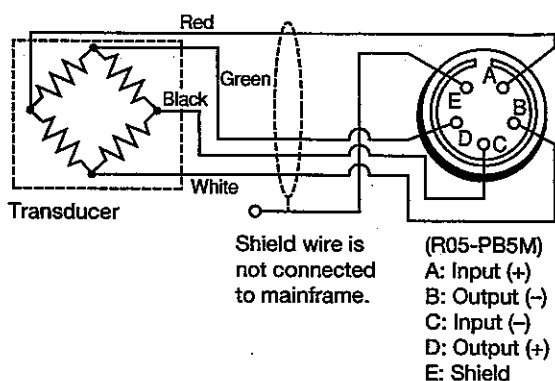

Fig. 3-1
- 3.2 If a strain amplifier other than KYOWA make is used, connection will be made, referring to Fig. 3-1 below.